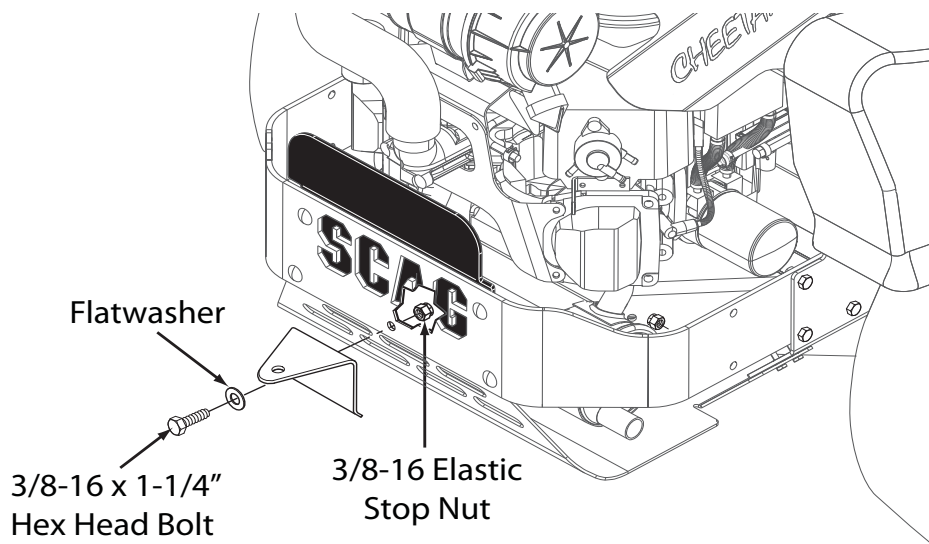

Figure 1. STCII/SCZ-48/52 Hitch Mounting
2. Remove the center bolt and serrated flange nut securing the skid plate to the rear bumper. See Figure 1. Discard original hardware.
3. Install the hitch to the center bolt hole using (1) one 3/8-16 x 1-1/4" hex head bolt, (1) 3/8" flatwasher and (1) one 3/8-16 elastic stop nut supplied with this kit. See Figure 1. Tighten hardware securely.